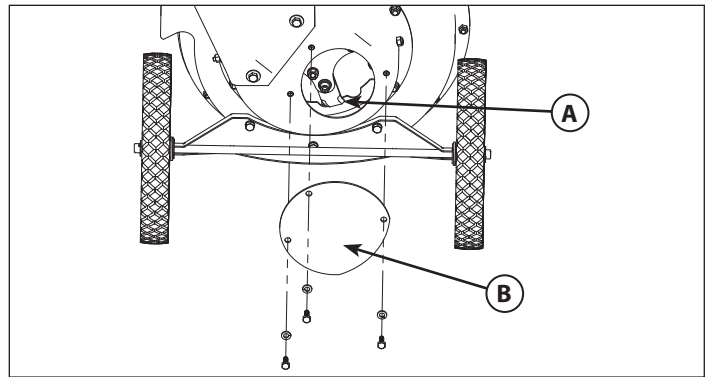

FIGURE 11
2. Remove the small circular access panel (B) from the back of the shredder housing. SEE FIGURE 11
3. Inspect the cutting edges of the triangular hammers (A) and J-hammers (A). SEE FIGURES 11 AND 12